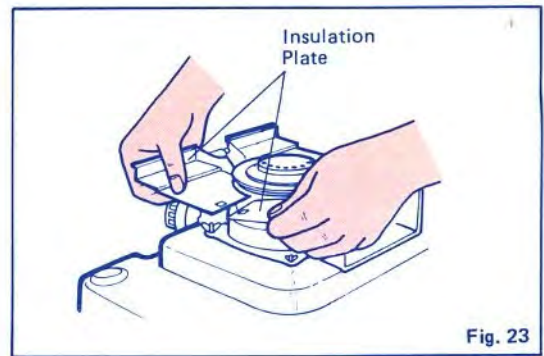

Fig. 23
- 13 Re-install the insulation plates. First install the front plate. It probably will be necessary to pull slightly on the ignition device to allow the front plate to slip into place. Next, install rear plate. The two catches should engage the rectangular holes on either side of front plate (Fig. 23).